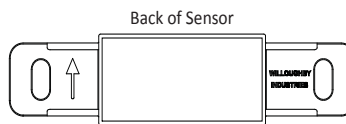

Figure 1
3. Install new sensor. Make sure sensor arrow is pointing up. See figure 1.